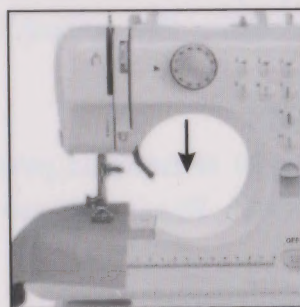

Fig.8
3. Lower the presser foot (Fig. 8).